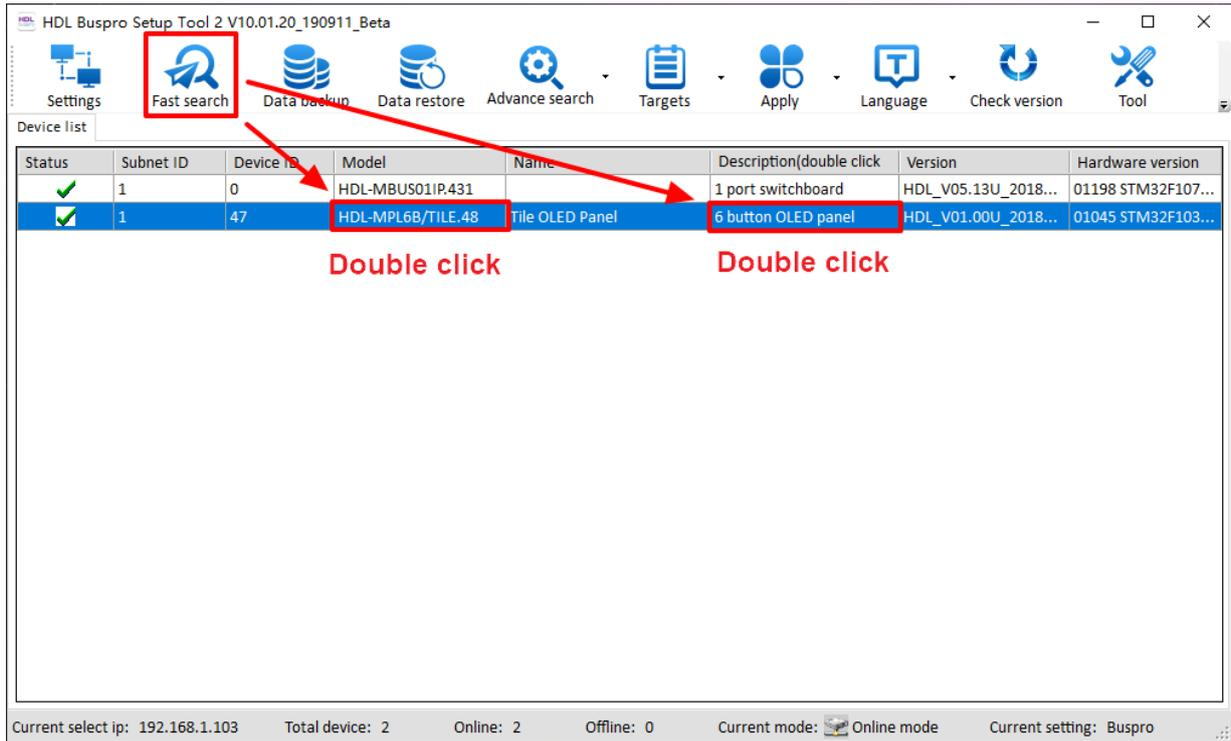
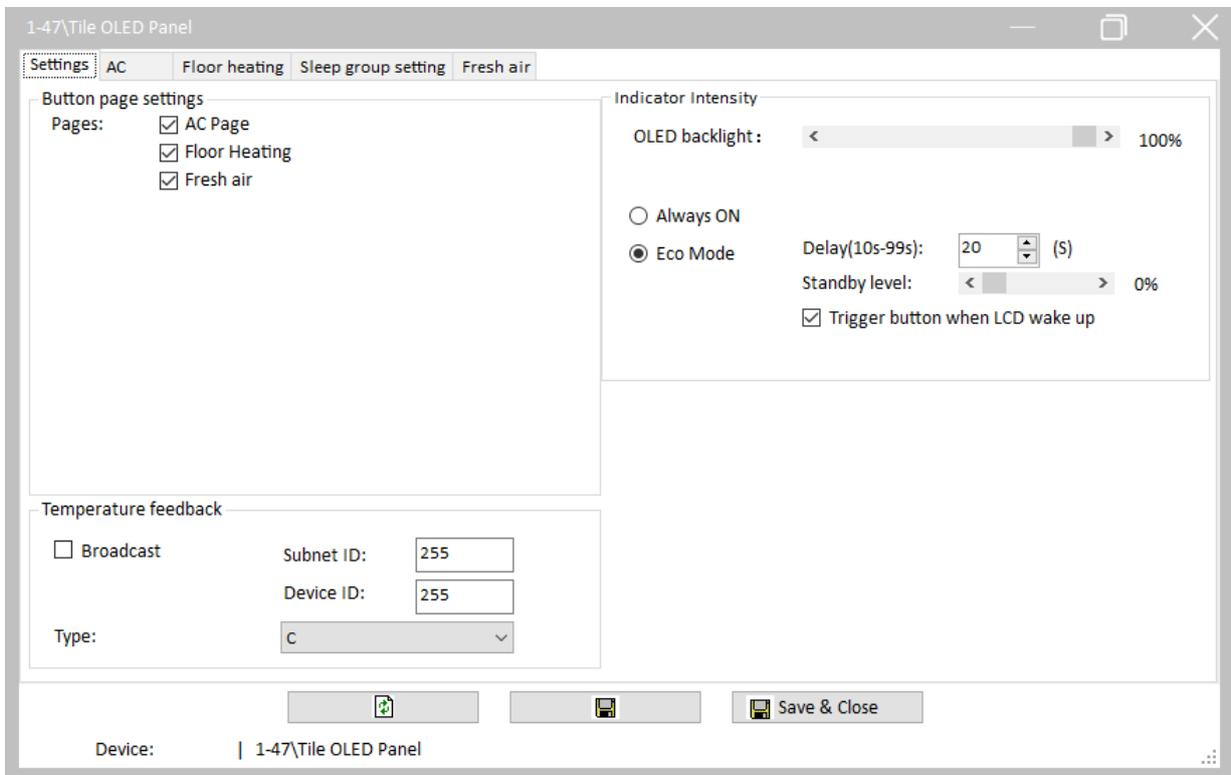

Figure 1-2 How to enter configuration page
Figure 1-3 Configuration page
3. Double click the “Model” or “Description” column to enter configuration page, as shown in Figure 1-2, Figure 1-3.